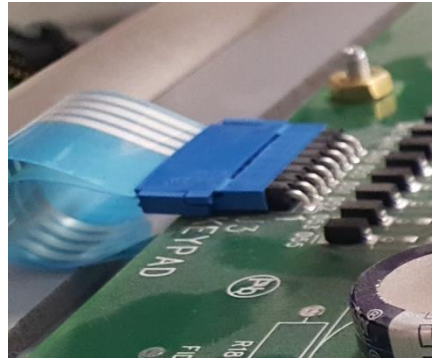

Figure 29
14. Plug in the ribbon cable from a new Control Panel at J3 as shown in *Figure 29*.